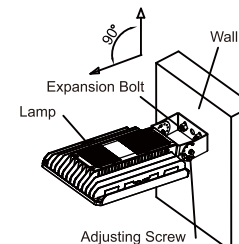

Figure6
- Step 2: Fix the lamp on the wall with expansion bolt; (Figure 6)